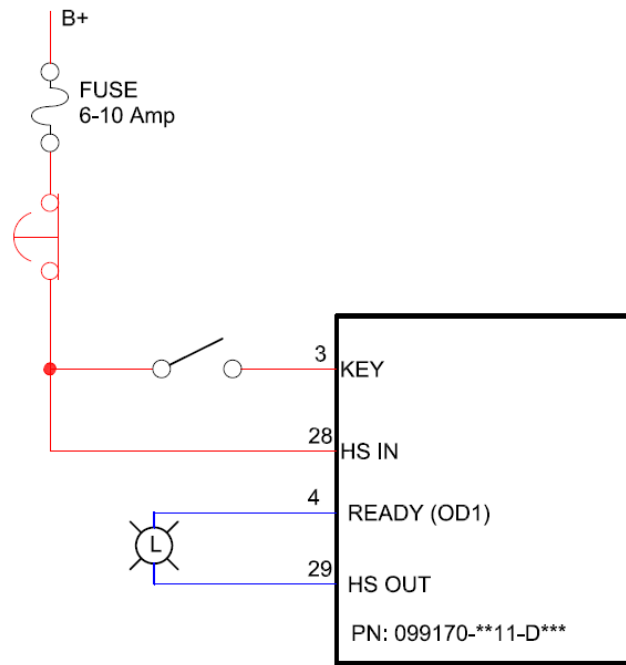
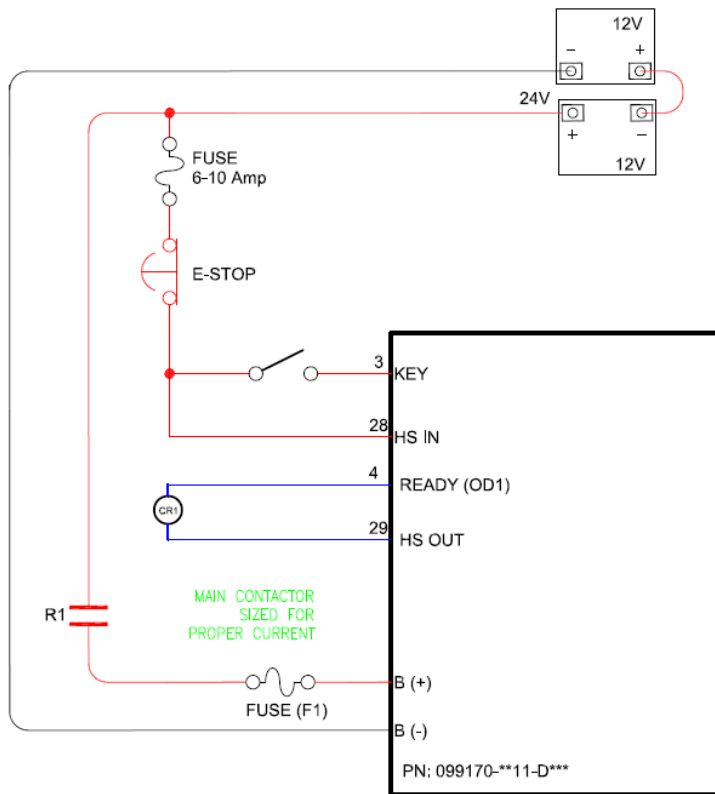
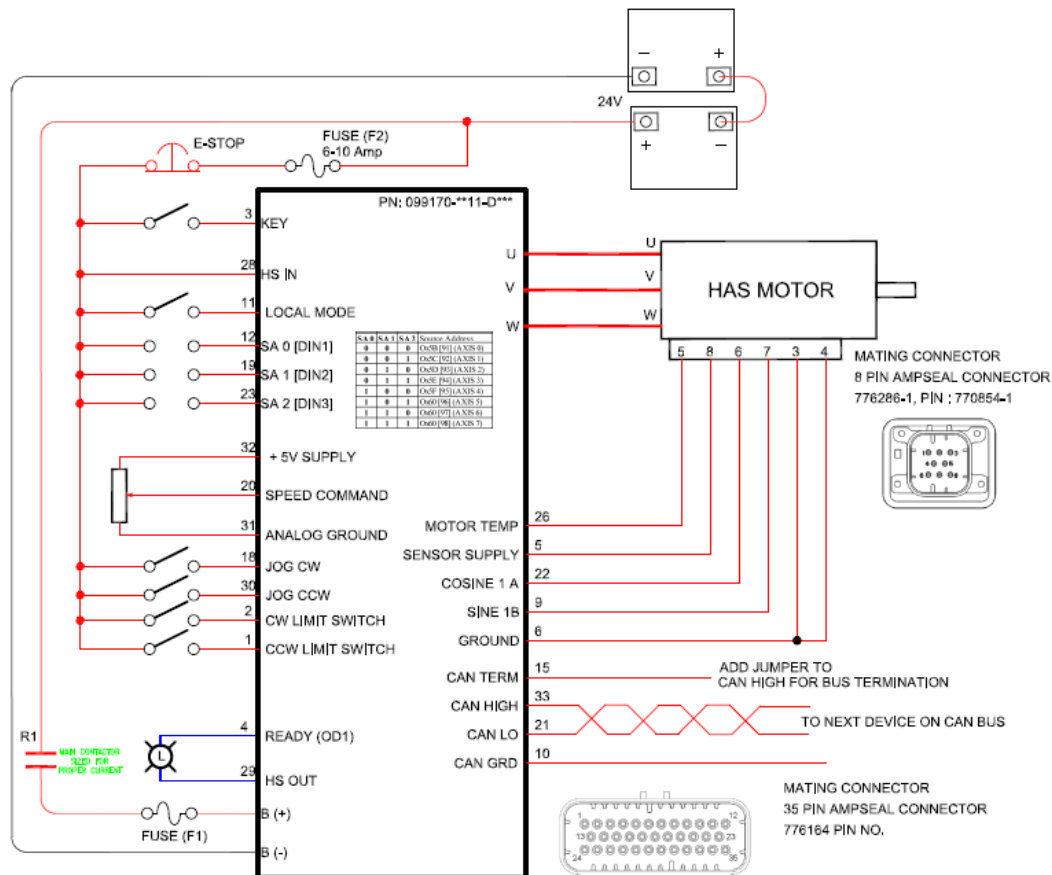

Figure 9 KEY and HIGH_SIDE_In wiring example
Figure 10 Ready Output to Power Main Contactor
Figure 11 Typical wiring of HAS Programmed Inverter
The KEY_INPUT supplies battery voltage to the motor controller for its internal processor and other functions. The vehicle start Key Switch generally controls power to the KEY_INPUT and charging of the filter capacitor, see Figure 9.
The Fuse F2 in (Figure 9), should be sized according to the number of motor controllers connected to the fuse and to protect the cable area in the circuit (recommended fuse size max 10 A) and the current consumption of the KEY_INPUT (power input < 15 W).
Voltage to power the Ready (OD1-pin 4) should be applied to the HIGH_SIDE_IN pin 28, and the load should be connected between HIGH_SIDE_OUT. see Figure 9.
The Ready Output may be used to power the Main Contactor coil, however Parker Cylinder Division recommends operation of the main contactor to be managed by the host controller. see Figure 10.
During start-up (after voltage has been supplied to the KEY_INPUT of the motor controller), the motor controller monitors the voltage of the capacitor bank. When the voltage over the capacitor bank has reached a pre-defined level, the motor controller will indicate that it is ready to switch on the main contactor. The motor controller may be configured to control the main contactor directly, with the use of Digital Output OD1 Pin 4. see Figure 10.
Figure 11 shows an example wiring diagram for a motor controller that is used as a standalone controller or J1939 CAN bus controlled inverter. With the Local Mode Input (pin 11) wired to the supply voltage all CAN Motion communications are ignored and HAS operation is achieved locally with discrete and analog logic controls.
- 12/19/23 SA0** Source Address Assignment, by hard wiring 3 bit scheme sets the controller source address. Multiple stand alone units should use Source Address assignment to prevent CAN errors, figure 11 assumes single configuration - Axis 0, no connection to Pins, 12, 19 and 23.
The logic supply fuse (F2 in Figure 9, Figure 10, Figure 11 and Figure 12) is part of the KEY_INPUT protection, see chapter 8.3.2.